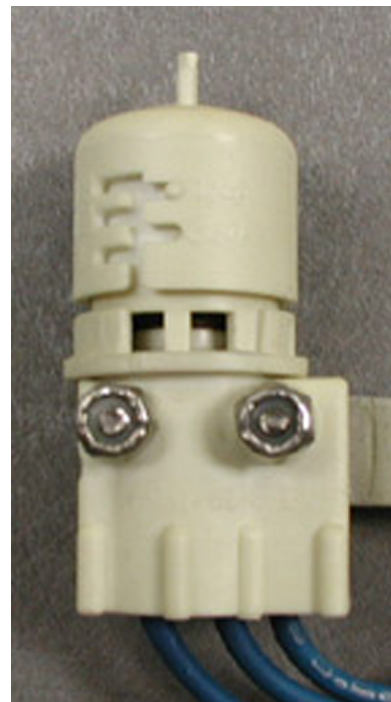

Figure 3. Rain shut-off device with expanding material.
**Expansion disks** -- This device is the most popular rain sensor due to high reliability and low maintenance. Expanding cork disks trigger a pressure switch. The expansion space can be easily adjusted by rotation of the disk cover to a predetermined amount of rain required to trigger the switch. The amount of rain that will interrupt the irrigation system is marked on the adjustment cap (Figure 3 and Figure 4).